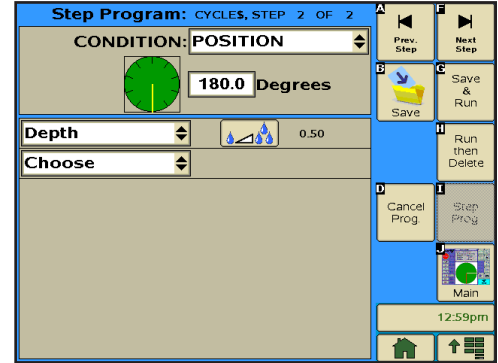

Figure 171-1
7. Program the position condition for this step. Refer to Figure 171-1.